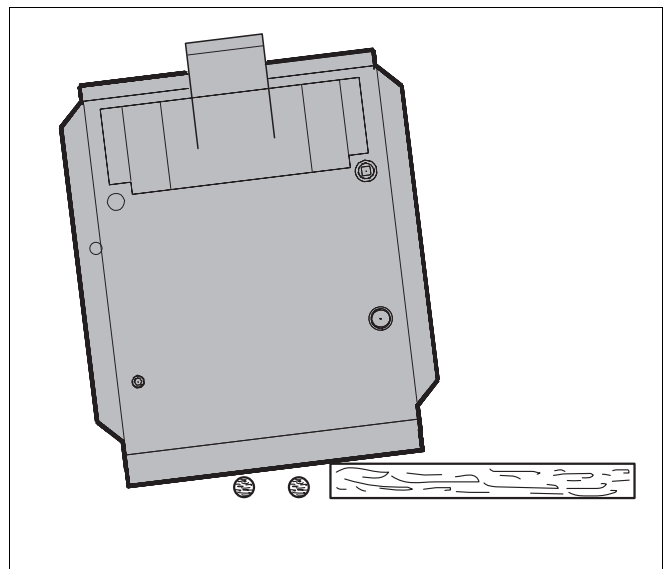

Fig. 4 Moving the boiler
- Lift the boiler at the sides and slide to the edge of the pallet. Place a pipe under the boiler (Fig. 4) and roll it on additional pipes to the installation location.